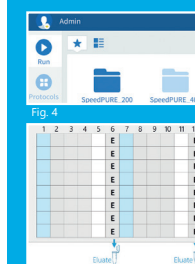

Fig. 4
11. Choose the desired protocol (Fig. 4)